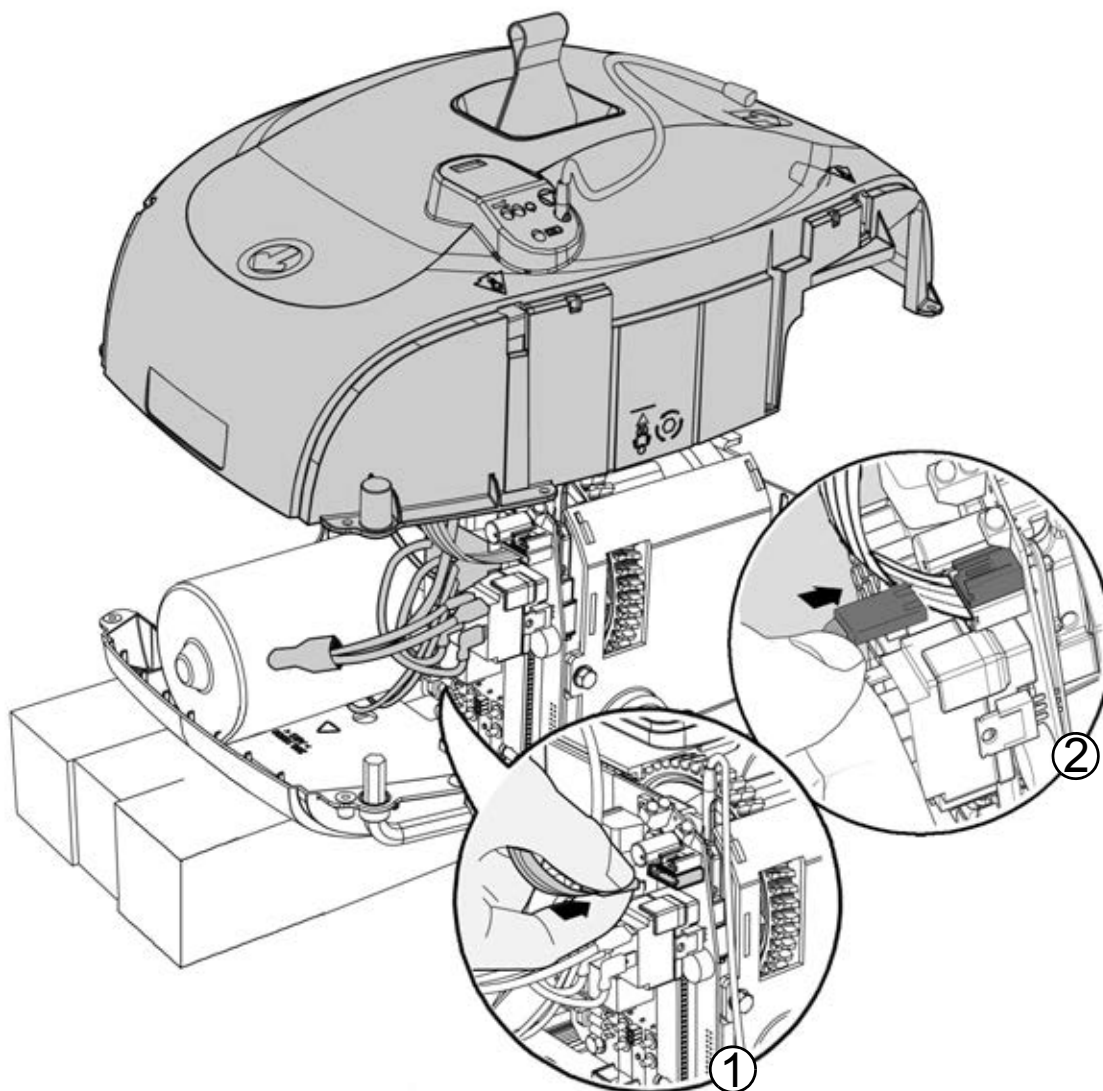

Fig. 37
- ② Remove the screws that secure the top plastic housing.
- ③ Unplug the membrane for the alternative up/down switches located on the unit, as well as the SWL key membrane, if applicable (see Fig. 37).
- ④ Unplug the main circuit connector.
- ① Plug in the main circuit connector
- ② Plug the membrane for the alternative up/down switches located on the unit, as well as the SWL key membrane, if applicable (see Fig. 37).
- ③ Replace the top plastic cover and secure it with the plastic screws.
- ⑤ With an extractor tool, disconnect the two horizontal motor wires from the main circuit harness and replace them with the ones from the new motor.